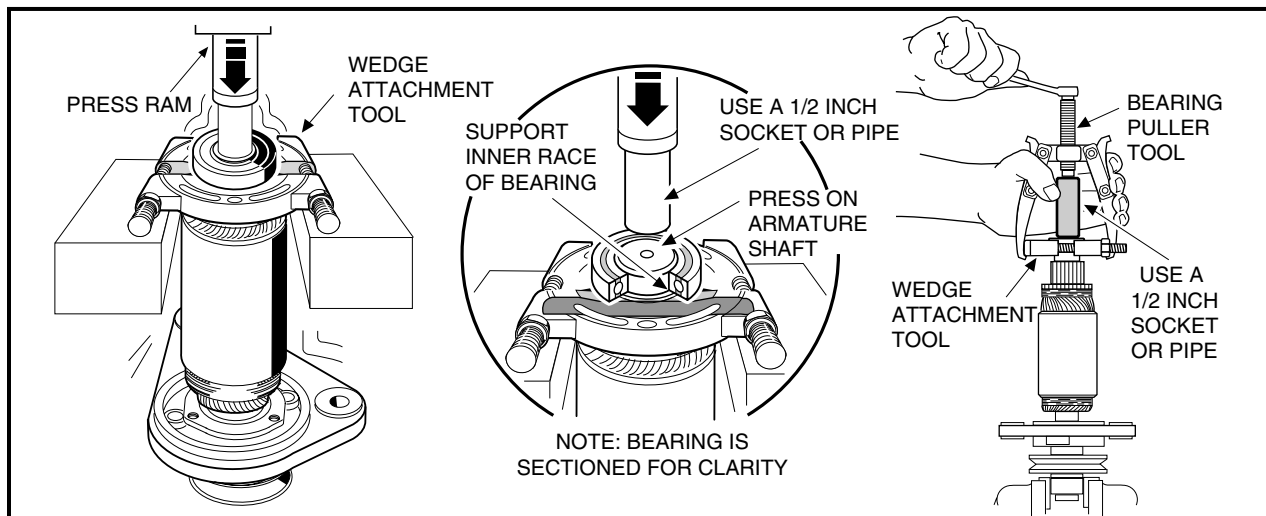

Figure 12-10 Bearing Removal
1. Place the wedge attachment tool (CCI P/N 1012812) between the bearing and the armature. Make sure the wedge attachment tool is supporting the inner race of the bearing. If a press is not available, secure a bearing puller (CCI P/N 1012811) to the wedge attachment tool and pull the bearing off of the end of the armature shaft. Support the armature so that it will not drop when the bearing is removed (Figure 12-10, Page 12-7).